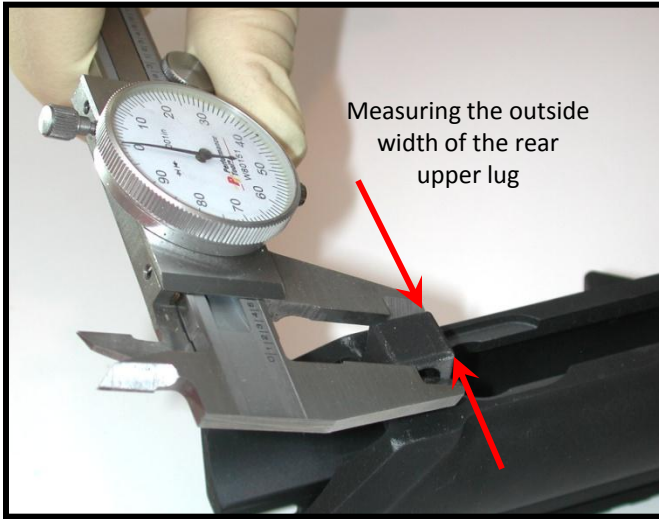

Figure 7
2. There are two (2) main areas you will need to check for proper fit. These are the:
- b. The outside width of the Front and Rear Lugs of your Upper (Figure 7). Both the Armalite™ and DPMS™ compatible versions take the same width of the Upper's Lugs. The width of these lugs should be – Front Lug 0.746" and the Rear Lug 0.496".
3. Lug Pins are supposed to be a standard size. They are not by any means standard and there is a large variation in the outside diameter (OD) even from the primary manufactures parts supply. We have set the inside diameter (ID) of the lug pin holes to match the smallest of the hundreds of Lug Pins (easier to take away metal than to add it). The goal of adjusting the Lug Pins OD is to make them fit "snug" so that they "tap in" lightly. Be patient, this is a slow process. We want everyone to have a perfect fit.
4. The outside width of the Front and Rear Upper's Lugs (Figure 7) may have to be adjusted down to where you get a nice tight fit with no wobble.